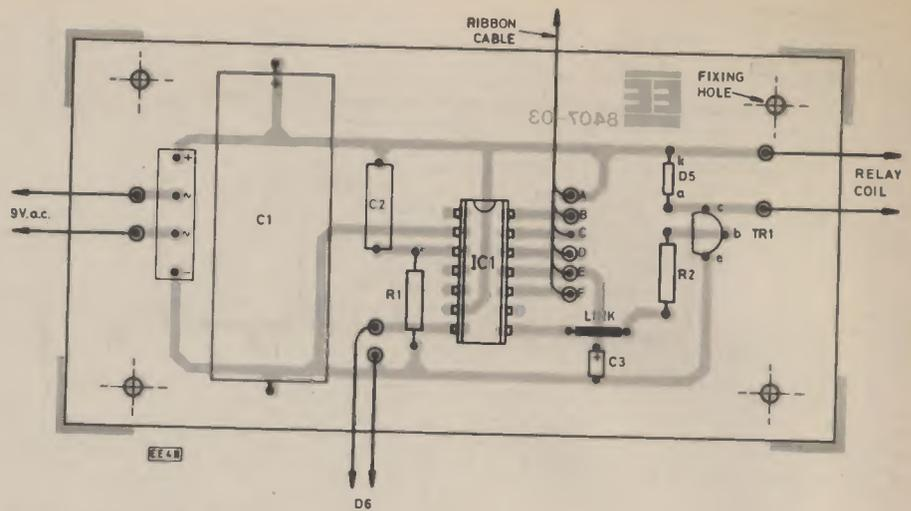
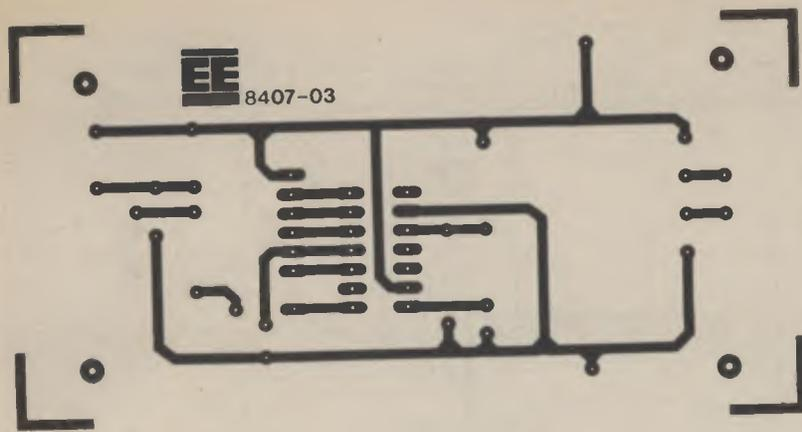

Fig. 5. Main p.c.b. component layout.
Fig. 4a. Main p.c.b. layout.
**MAIN CIRCUIT BOARD:** The two printed circuit boards are shown in Figure 4a and 4b. Begin construction by assembling the main circuit board as shown in Figure 5. It is generally more convenient to insert the low-lying components, including resistors R1 and R2, D5, and the socket for IC1, first, followed by the larger components. Take care to insert the electrolytic capacitor (C1) and tantalum capacitor (C3) with the correct polarity. Do not insert IC1 at this stage. Complete the assembly of the main circuit board by soldering in various colours of flying leads about 15cm long, using of stranded wire and ribbon cable, as indicated.